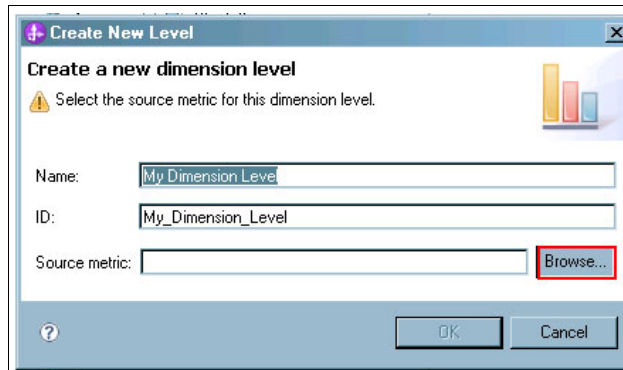

Figure 8-69 Create dimension level
5. Right-click the newly created dimension and select **New Dimension Level**. See Figure 8-69 on page 274